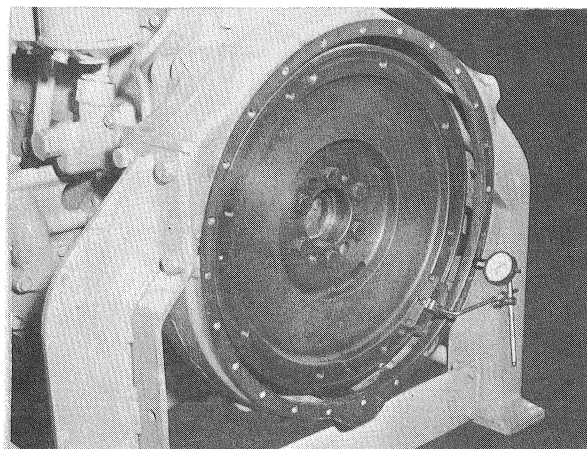

FIGURE 2-3 CHECKING ENGINE FLYWHEEL HOUSING RUNOUT
- d. Before starting to assemble the generator to the engine, mount the base of a dial indicator on the center of the flywheel and position the finger of the indicator on the machined surface of the flywheel housing (bellhousing) which bolts to the generator adapter. See figure 2-3. Set the dial indicator to zero. Turn the engine through one complete revolution. **TOTAL INDICATOR READING SHOULD NOT EXCEED .003-INCH PER EACH FOOT OF DIAMETER OF THE FLYWHEEL HOUSING.** See TABLE 2-1. If reading exceeds the allowable limit excessive vibration could result. Contact the engine manufacturer for recommendations if runout exceeds .003-inch per foot of diameter of the flywheel housing.